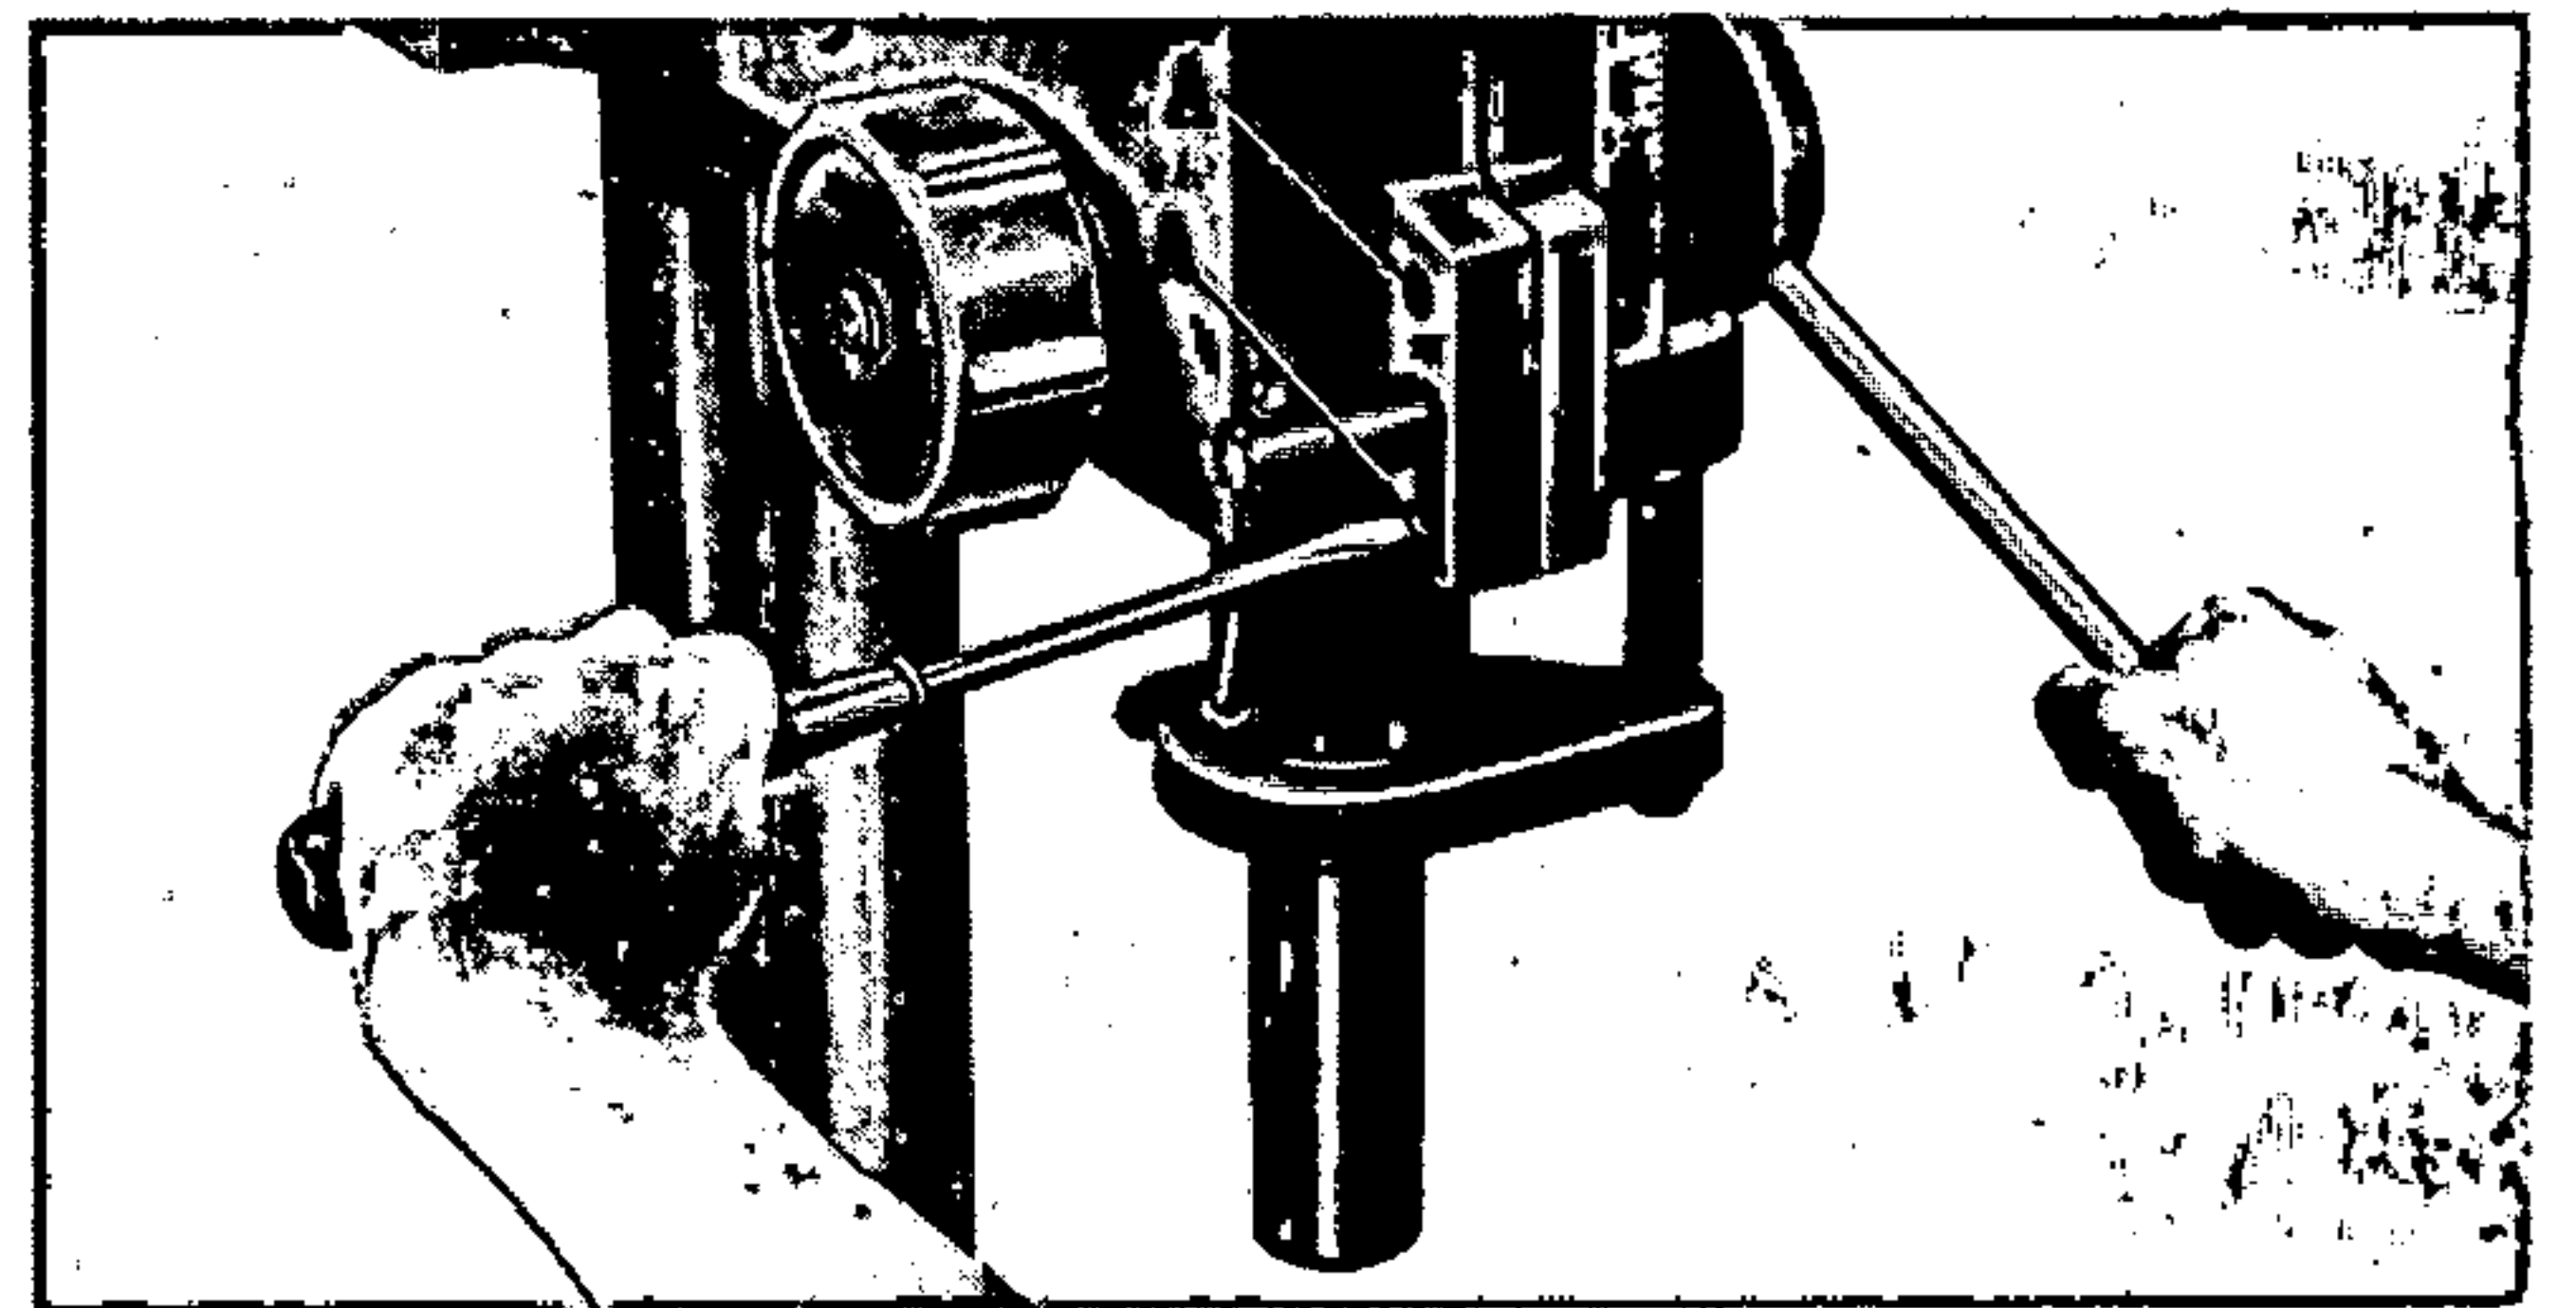

Figure 8
Front of drill press head is split — has two take-up screws set at factory to provide accurate fit between head and quill. This setting should not be disturbed unless play develops between quill and head. To eliminate play, tighten screws (A, fig. 8) — using correct size screw driver — until play has been removed. Move quill up and down in head to make sure it slides freely.
To increase tension, lower quill to bottom of stroke, turn the spring cap counter-clockwise. To release tension, pull out spring cap (fig. 8) and turn clockwise.
1. Release spindle return spring tension (fig. 8).